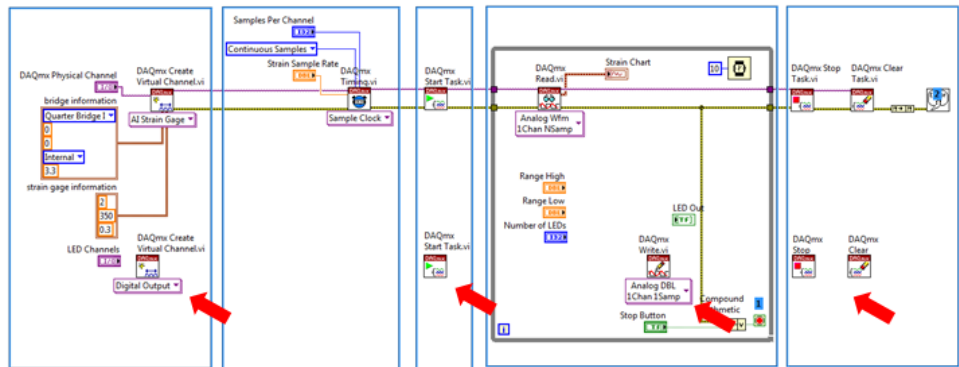

Figure 28. These VIs should look familiar – nearly all DAQ programs will follow this pattern.
13. Drag the following VIs from the DAQmx palette and place them as shown in Figure 28.